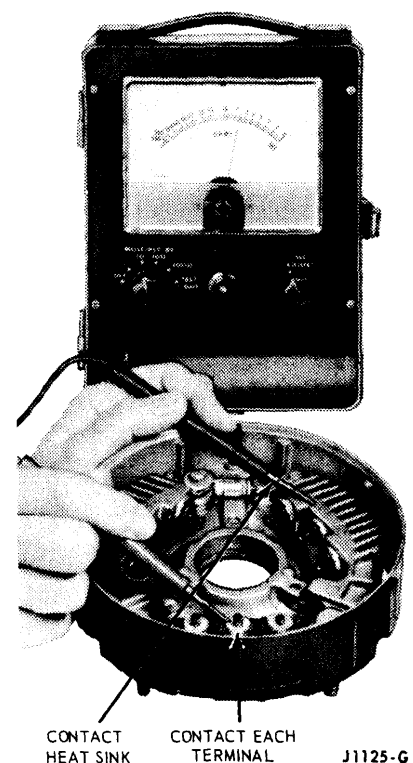

FIG. 11 Diode Test—Leece Neville Alternator
1. To test one set of diodes, contact one probe to the terminal bolt as shown in Fig. 11 and contact each of the three stator lead terminals with the other probe. Reverse the probes and repeat the test. All diodes should show a low reading of about 60 ohms in one direction, and an infinite reading (no needle movement) with the probes reversed.